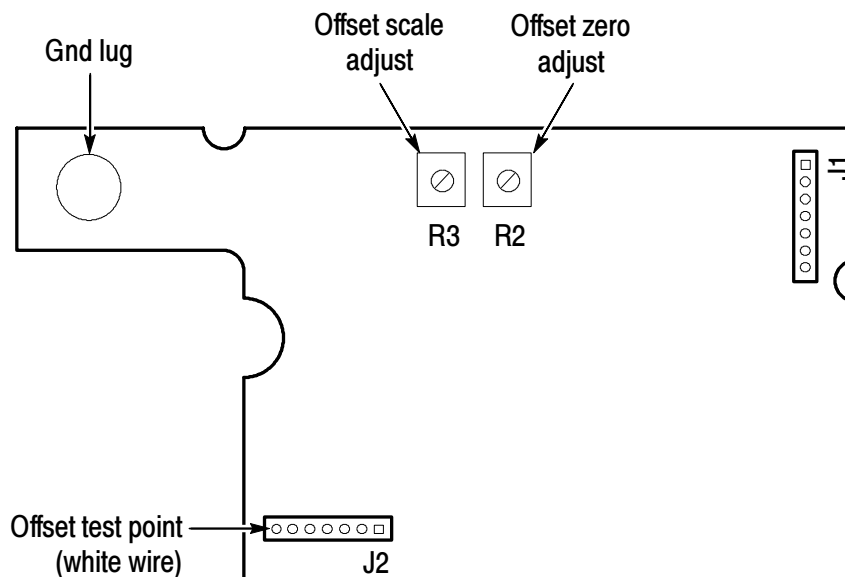

Figure 17: P6209 adjustment and measurement locations
Refer to Figure 17 for the location of the offset adjustments and measurement test points.
5. Using the (-) lead of the DMM, probe the ground lug in the probe comp box. Refer to Figure 17 on page 44.
6. Using the (+) lead of the DMM, carefully probe pin 7 of J2 (white wire) in the probe compensation box. Refer to Figure 17 on page 44.
9. Adjust **Offset Zero** (R2) in the probe compensation box for 0.00 V, ± 1 mV on the DMM. Refer to Figure 17 on page 44 for the adjustment location.
Use this procedure to adjust the offset scale of the probe. The offset zero of the probe should be checked before making any adjustment to the offset scale. Refer to Figure 17 on page 44 for the location of the test points and adjustments.